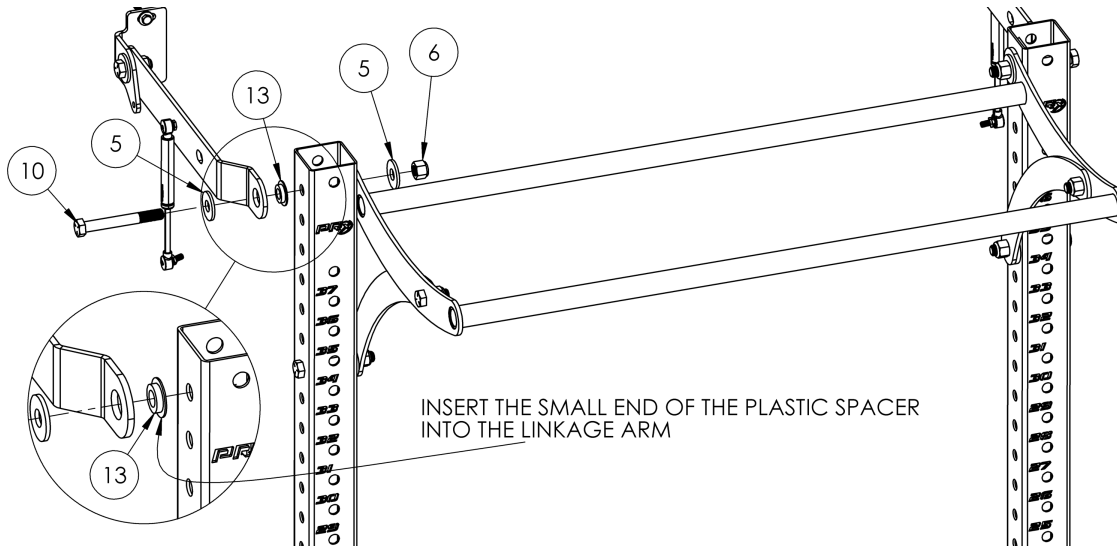

Figure 9: Bolting the Rack to the Upper Linkage Arms
2. Undo one 5/8" x 5" hex bolt (10) and bolt the linkage arm to the upright through the tipping bar using the 5/8" x 5" hex bolt (10), two 5/8" flat washers (5), one plastic spacer (13), and one 5/8" locknut (6) (**Figure 9**). Tighten to be snug but do not overtighten. Repeat this with the other side.